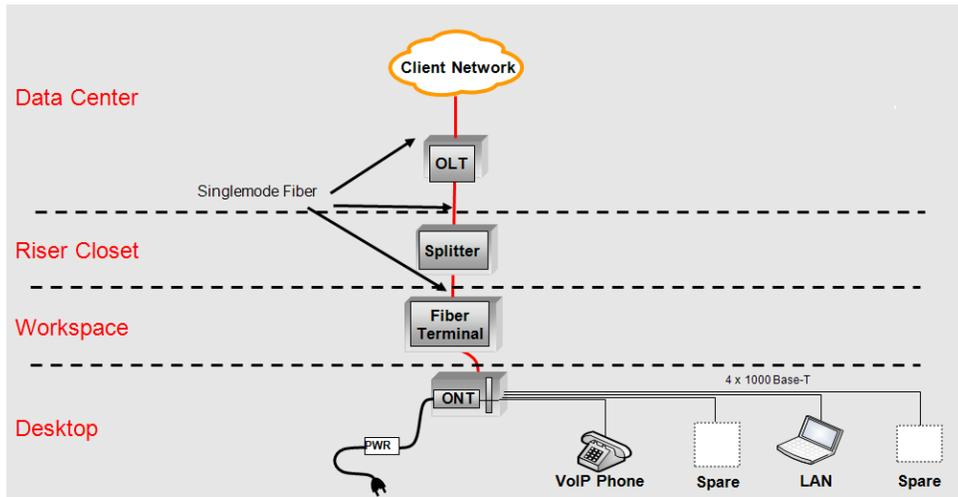

Figure 1: OLA Architecture
The typical OLA network as depicted in figure 1 places an Optical Line Terminal (OLT) in the customer's data center with connectivity to the user desktops being provided via passive singlemode fiber. The optical signal is then converted back to an electrical interface via an Optical Network Terminal (ONT) placed at the user station. Note that the typical ONT provides at least (4) GigE ports, effectively allowing two users to share ONTs where applicable.